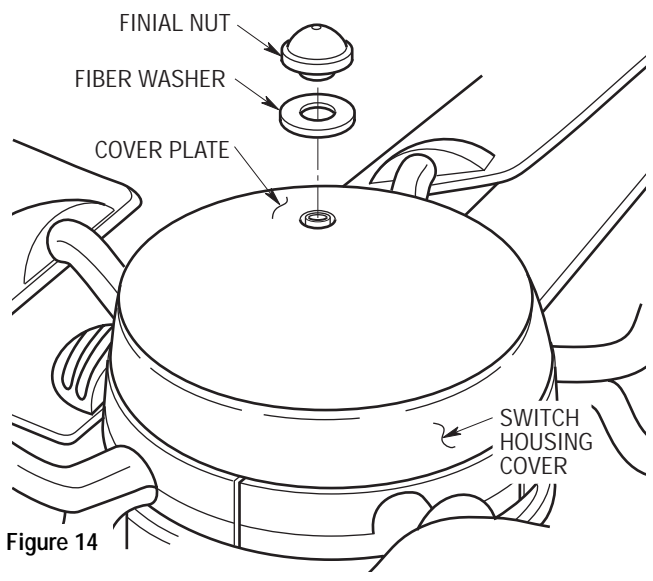

Figure 14
23. Position the cover plate on the switch housing cover and secure by installing the fiber washer and finial nut (supplied) (Figure 14). Proceed to "Electrical Requirements" section.